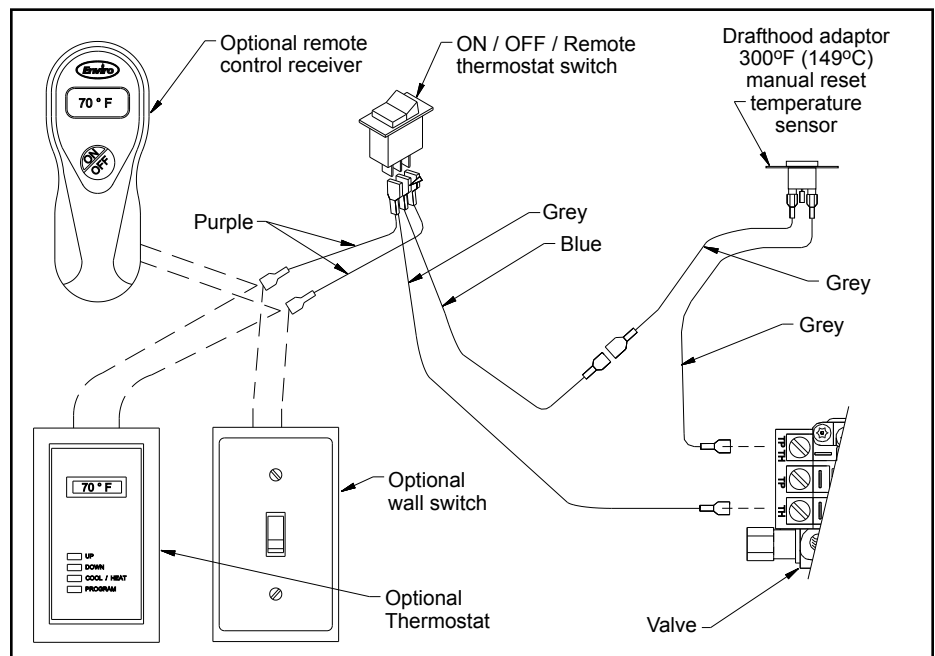

Figure 45: Wiring Diagram for Electrical Connection.
3. Being careful not to run any wiring tight across metal edges; connect them to the valve and "ON/OFF" switch (refer to Figure 45).
The fireplace connections are labelled in Figure 45. When installing the Drafhhood Adaptor onto a fireplace fitted with an optional wall switch or an optional thermostat, remove one wire from the switch to the gas valve and connect the Drafhhood Adaptor harness as shown in Figure 45.
2. Disconnect the spill switch wires from the valve and on/off/remote rocker switch wire (see Figure 45).